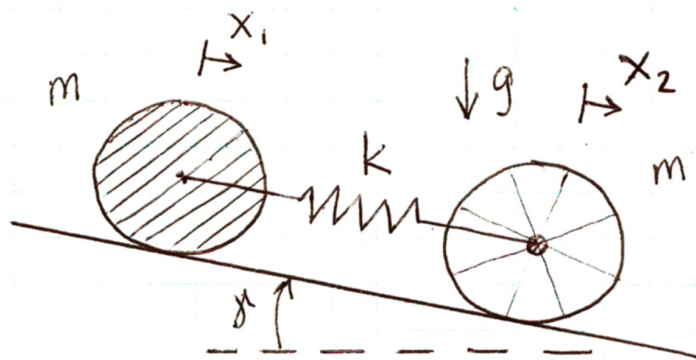

Figure 4: Solid wheel ($J = \frac{1}{2}mR^2$, at left) and point-mass wheel ($J = 0$) connected by a spring.
4.3 Dynamics of spring-linked wheels. In this problem, we link the solid wheel ($J_a = \frac{1}{2}mR^2$) and the point-mass wheel ($J_c = 0$) from the previous problem with a spring of stiffness k . (Assume that with $x_1 = 0$ and $x_2 = 0$, the spring is at its undeflected length where it produces no force; otherwise, it is a linear spring: $F_k = k\Delta x$. Also assume the wheels roll with no slip.) Figure 4 shows the system.